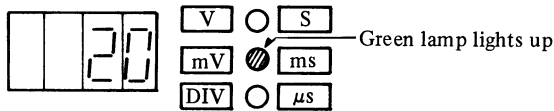

Fig. 7-22
① to ②. If a sweep time is 1 ms/div , ($1 \text{ ms} \times 2.0 = 2.0 \text{ ms}$), the number 2.0 appears on the DATA indicator. (See Fig. 7-22)